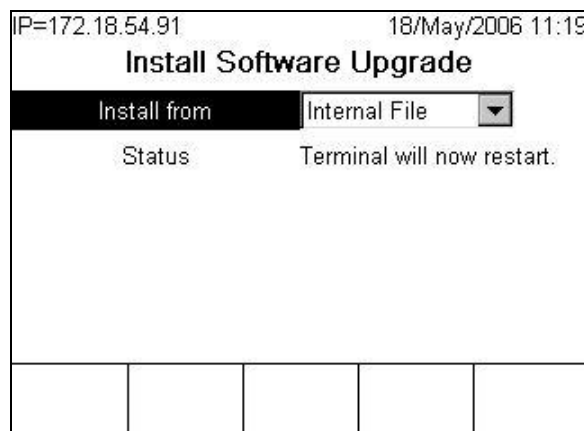

Figure 4-4: Firmware Upgrade in Progress
8. If the IND780 finds the files in the UPGRADE directory, the screen shown in Figure 4-4 appears briefly, and the terminal restarts.